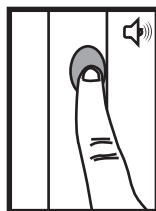

Figure 30;
Press the PROGRAMMING BUTTON (b) on each of the SMART WAND™(s) you wish to pair to the remote until you hear a SINGLE BEEP (1) [Fig. 30], then release.